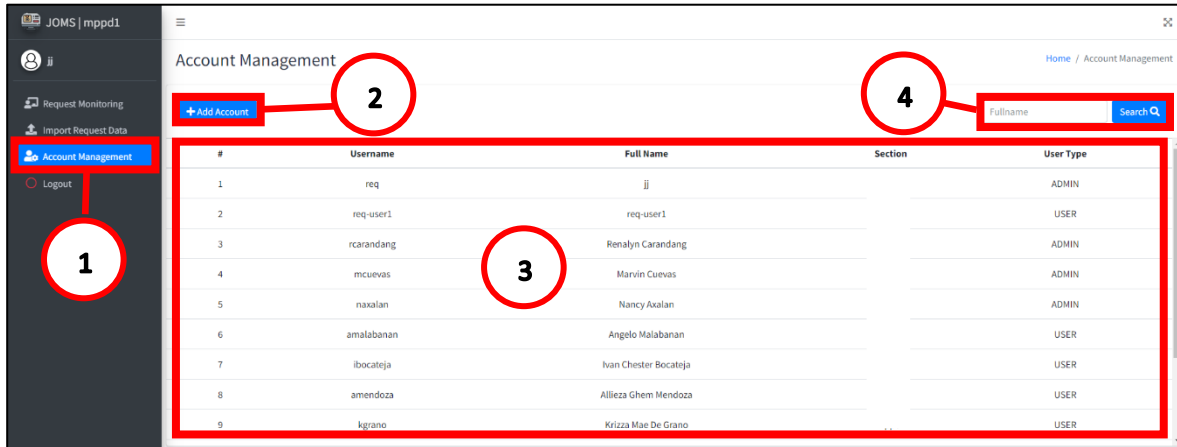

Figure 2.9
1. Click the Account Management (See Figure 2.9).
2. Click Add Account and create an account (See Figure 2.9).
3. View data table for your accounts. To Update, Click the data you want to UPDATE, or DELETE the account (See Figure 2.9).
4. Search accounts by full name (See Figure 2.9).